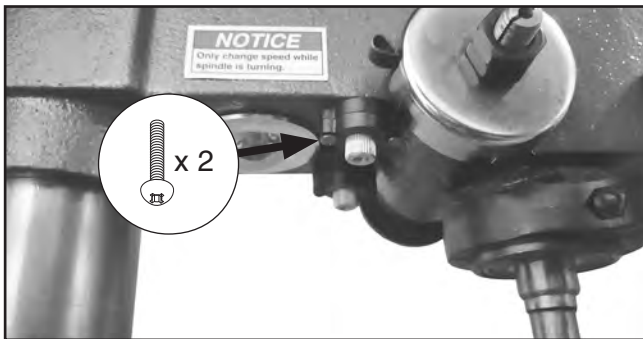

Figure 48. Location of Phillips head screws securing laser.
2. Remove (2) Phillips head screws securing burned out laser in laser seat (see **Figure 48**).